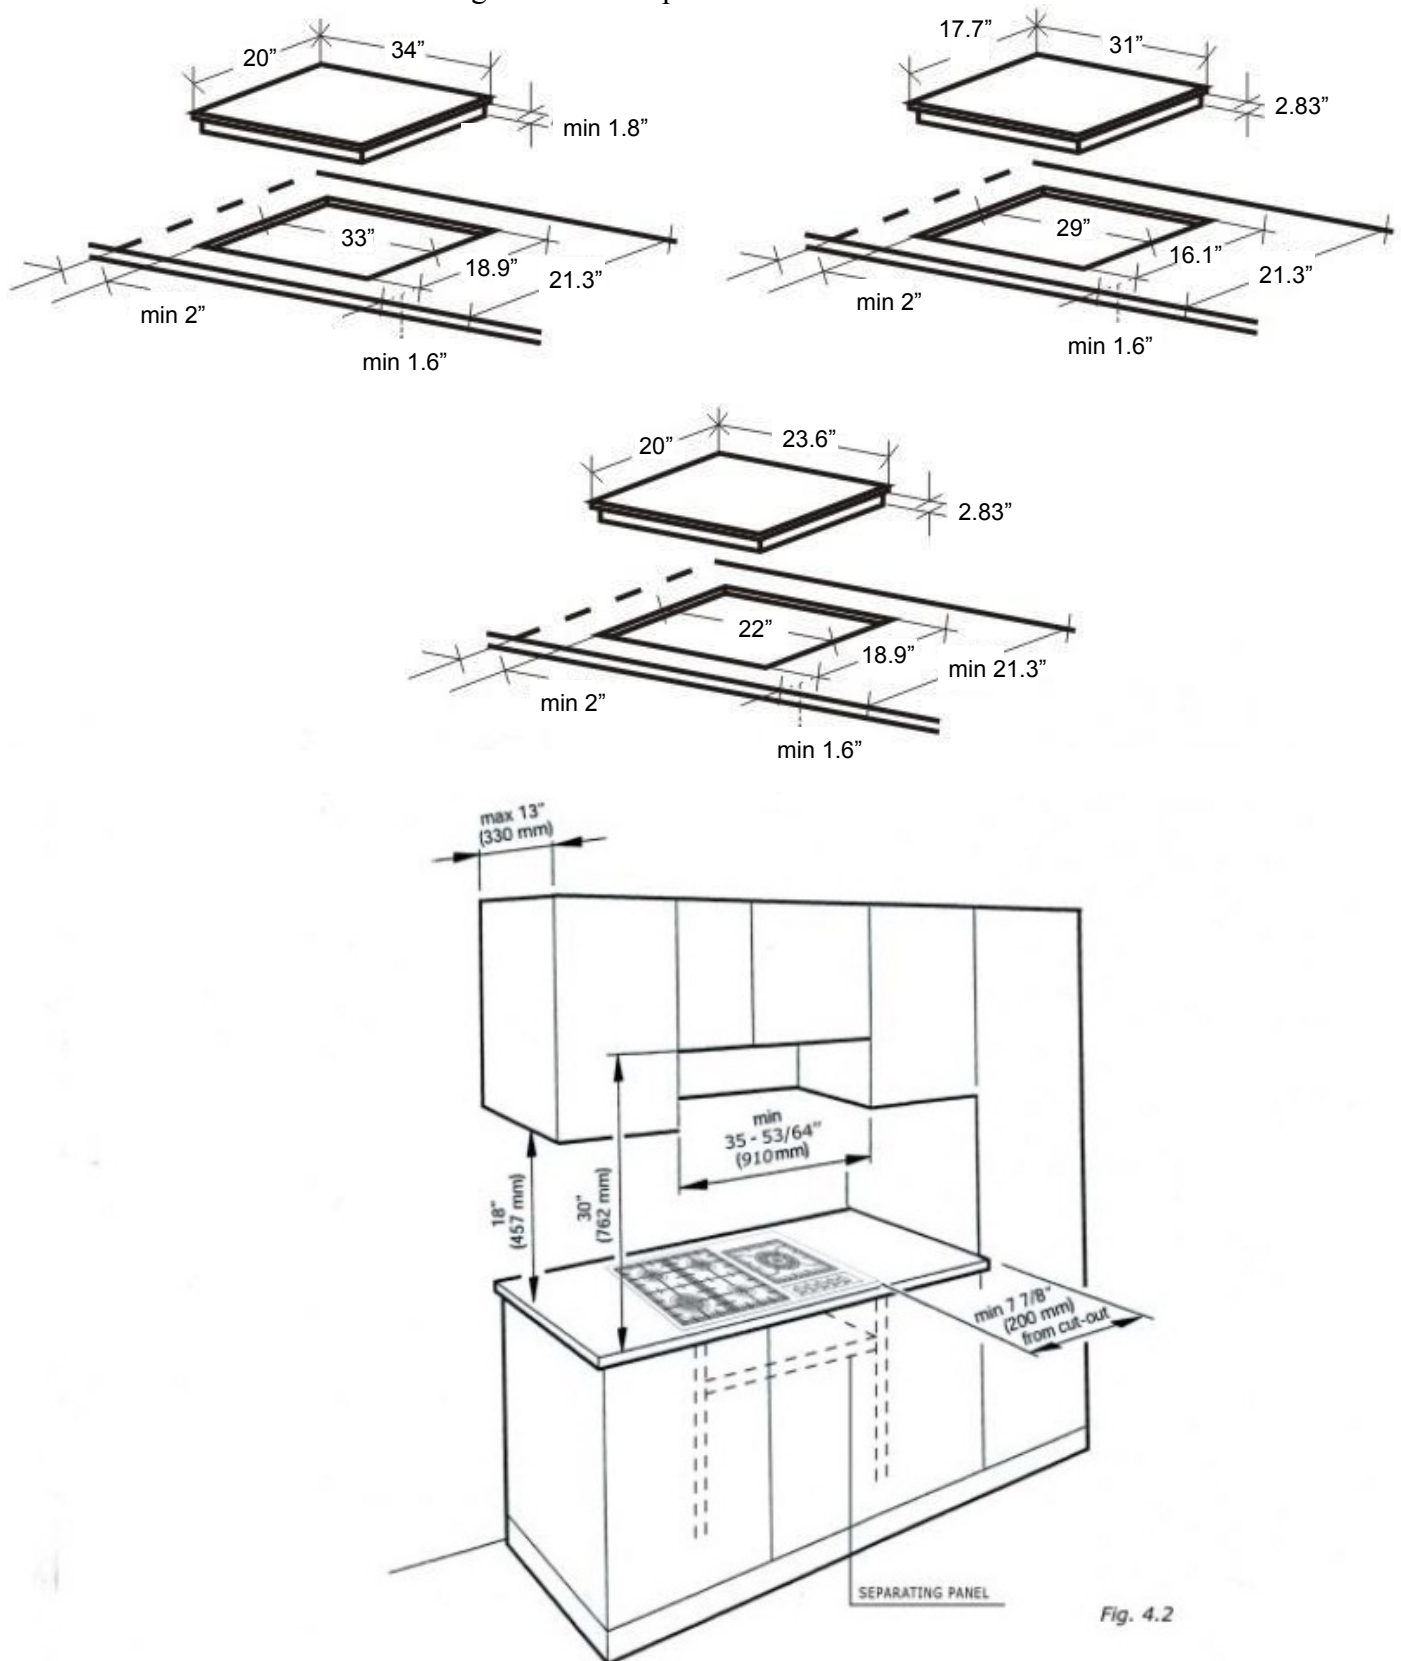

Fig. 4.2
4. A separating panel shall be provided under the cooktops as described in fig.4.2.